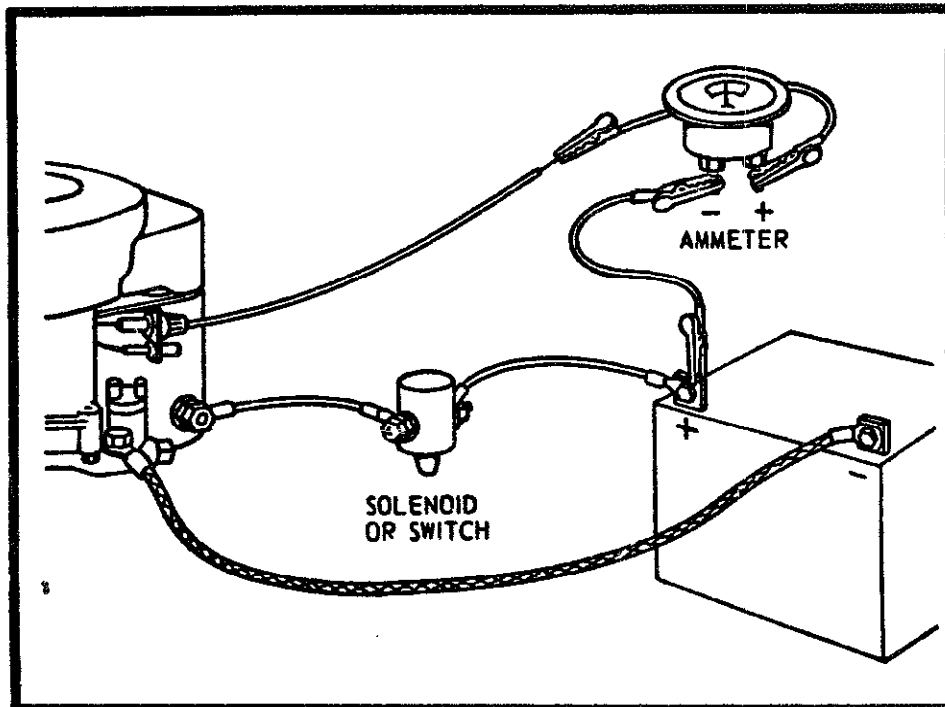

Fig. 6-8. Testing DC output on the dual circuit alternator. (Courtesy Briggs & Stratton Corp.)
**Charging Circuit.** Check output with an ammeter in series with the positive battery terminal (Fig. 6-8). The meter should show some output at medium and high engine speeds. No charge indicates a blown fuse, shorted or open wiring, or a failure of the rectifier or alternator.